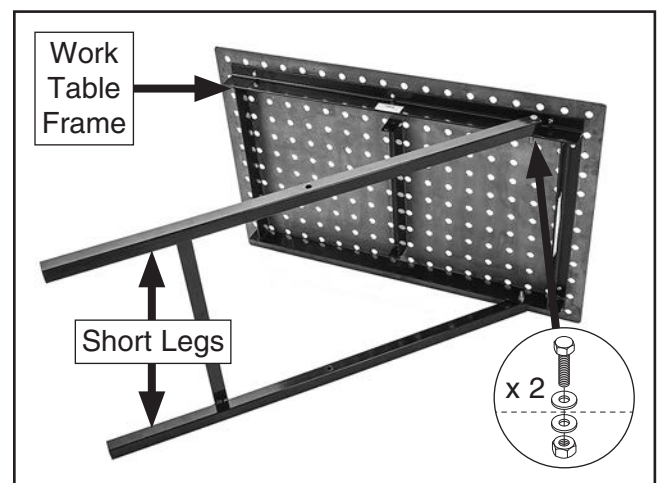

Figure 2. Short legs attached to work table frame.
2. Stand work table on long edge for assembly (see **Figure 2**).
3. Attach short legs to work table frame with (2) M8-1.25 x 55 hex bolts, (4) 8mm flat washers, and (2) M8-1.25 hex nuts (see **Figure 2**).